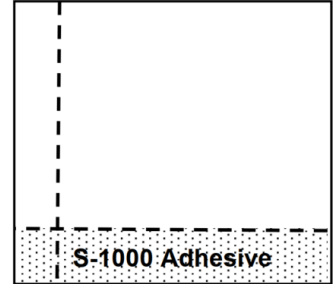

Figure 2: Adhesive Bond
- Apply the Adhesive in 2" or 3" bands (Figure 2) being careful not to cover the chalk lines. Do not apply more adhesive than you can cover within 45 minutes. Allowing a 10-minute open time and fitting the border tile tightly will reduce tile shifting and adhesive oozing. **DO NOT** allow the adhesive to dry completely.